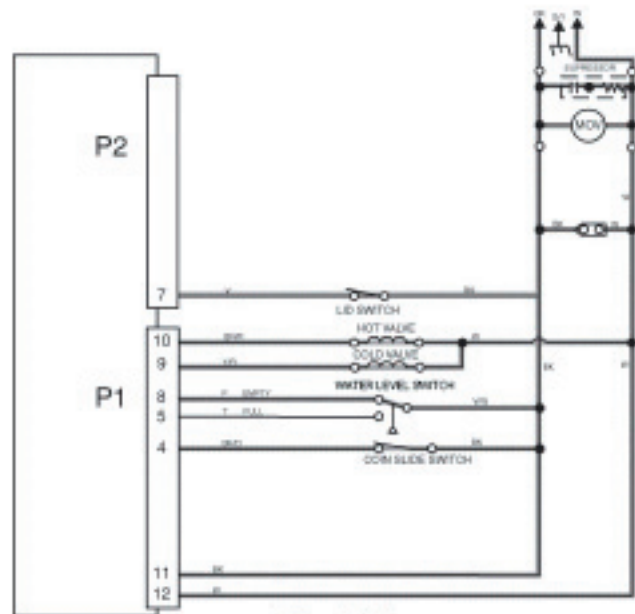

Fig. 3-3
1. The coin slide switch sends 120 VAC to the electronic control board which begins the cycle countdown and the washer begins the fill cycle by switching 120 VAC to the hot and cold solenoids which open the hot and cold water valves. (Fig. 3-3)